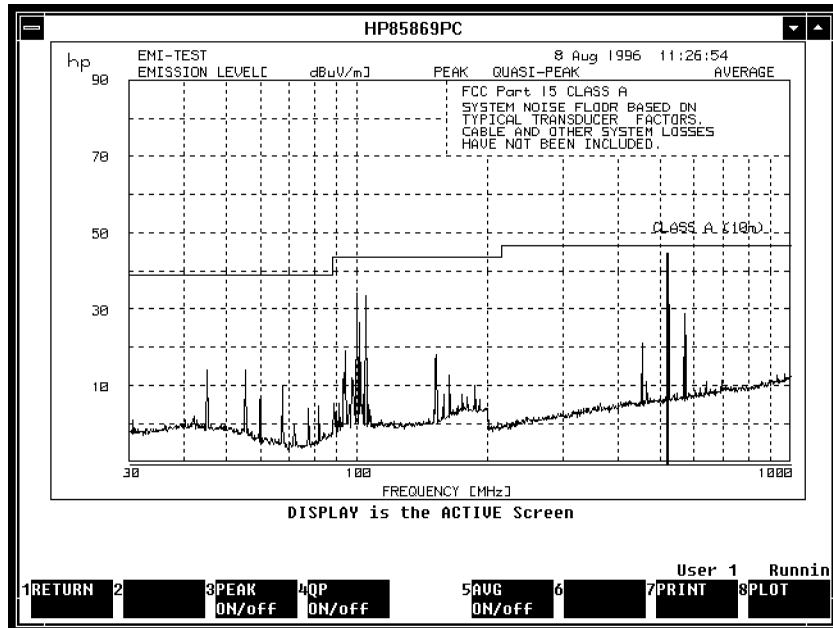

Figure 7-28. Manual Mode using the Average Measurement - At Peak Option
6. After pressing the **MANUAL MEAS** softkey, a display similar to Figure 7-28 appears on your computer display.